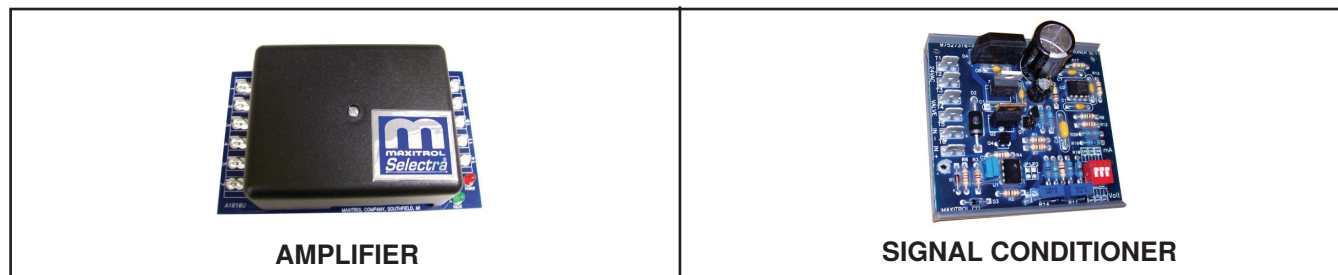

Figure 33. Maxitrol Amplifier and Signal Conditioner
The type and capability of the electronic modulation system, depends on the option selected. Depending on the heat requirements as established by the thermistor sensor, the burner modulates between 100% and 50% firing. The thermistor is a resistor that is temperature sensitive in that as the surrounding temperature changes, the ohms resistance changes through the thermistor. This change is monitored by the solid state control center (amplifier) (see Figure 33) that furnishes varying DC current to the modulating valve to adjust the gas input. The amplifier is shipped separately for field-mounting. Each modulating valve is basically a regulator with electrical means of raising and lowering the discharge pressure. When no DC current is fed to this device, it functions as a gas pressure regulator, supplying 3.5 IN WC pressure to the main operating valve.
- **Electronic modulation between 50% and 100% firing rate (option AG8):** Electronic modulation for makeup air application that is controlled by a duct sensor and temperature selector (55–90°F (12.8–32.2°C)). The temperature selector setting for option AG8 is on the amplifier (see Figure 33). Option AG8 is available with an override thermostat.
- **Electronic modulation between 50% and 100% firing rate (option AG21):** With option AG21, the furnace is equipped with a Maxitrol signal conditioner (see Figure 33) that operates much the same way as the amplifier above to control the regulator valve. The conditioner accepts an input signal of either 4–20 milliamps or 0–10 volts from a customer-supplied control device such as a computer. With the dip switches on the conditioner in the ON positions, the conditioner accepts a 4–20 milliamp signal. In the OFF positions, the conditioner accepts a 0–10V signal. The conditioner converts the signal to the 0–20 volt DC current required to control the modulating valve.